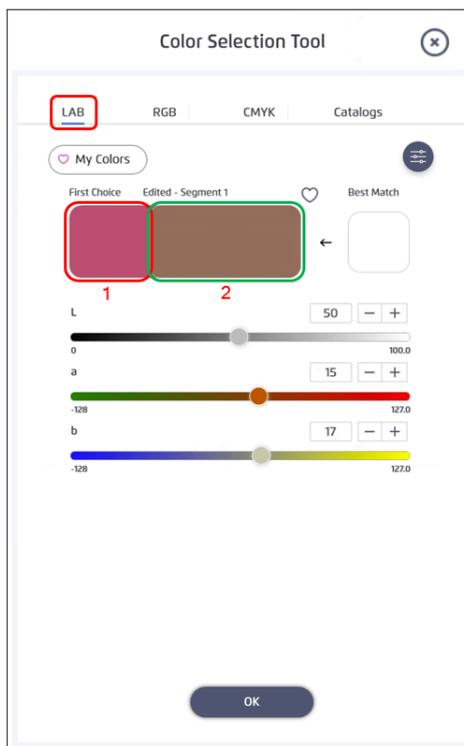

Figure 72: Editing a solid color
In Figure 72, the **First Choice** (1), shows the original color segment. The **Edited – Segment 1** (2), shows the new color option following the new LAB parameters.